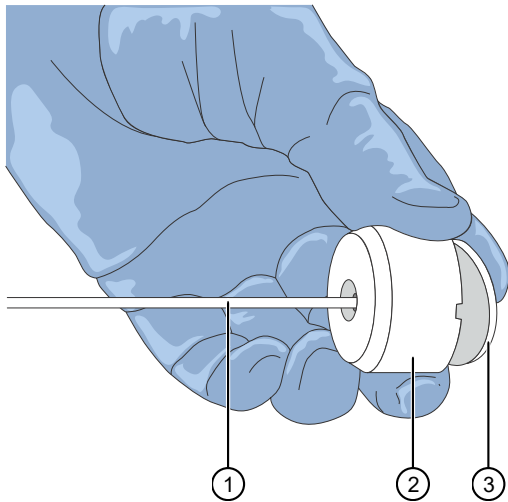

Figure 49 Components of the reagent buffer supply line and filter.
2. Carefully remove the filter from the end of the filter body (see Figure 49).